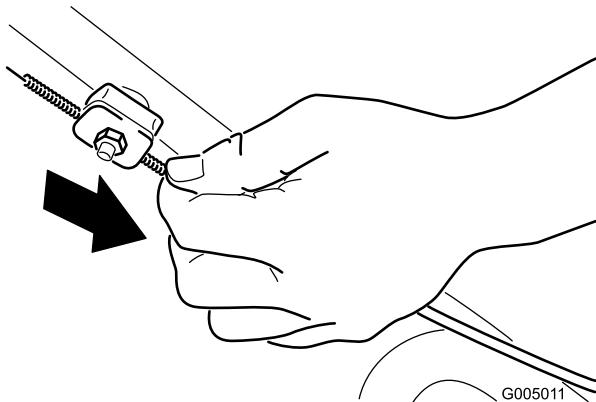

Figure 29
2. Pull down the cable jacket (toward the mower) until there is no slack in the cable (Figure 29).